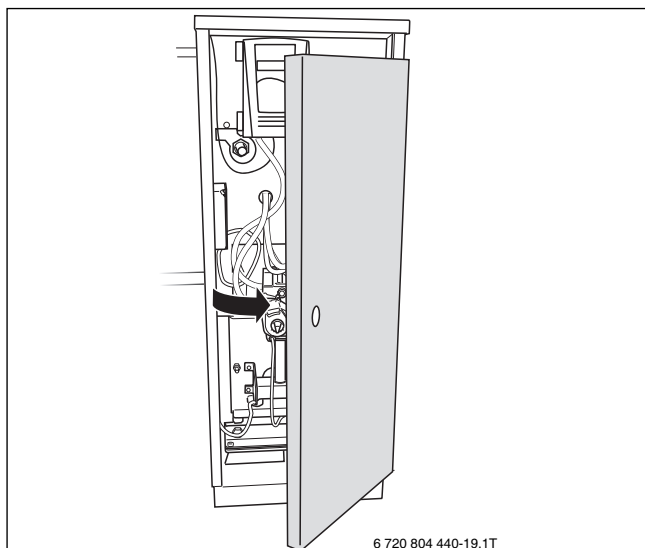

Fig. 19 Opening front door
- ▶ Open front door (→ figure 19).